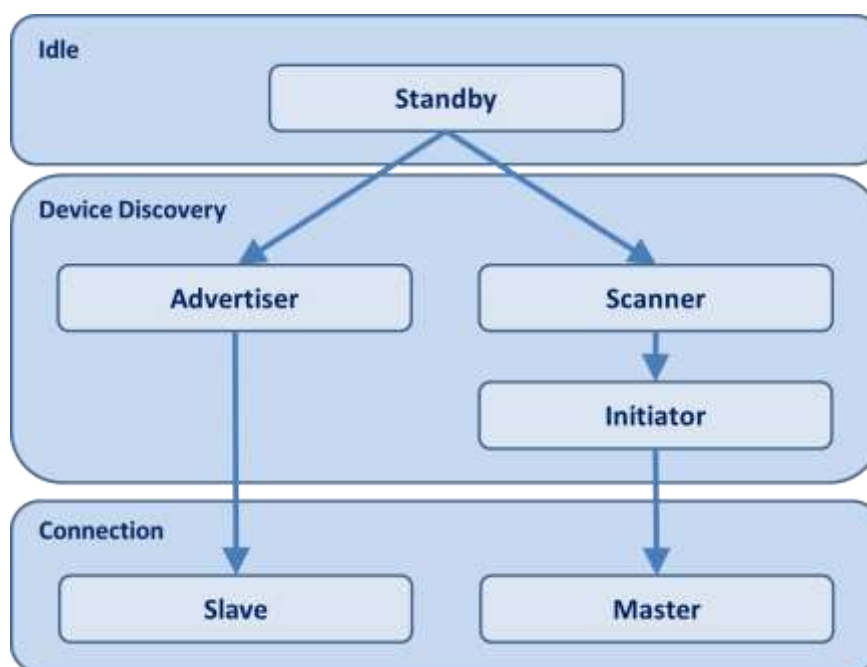

Figure 4: Link Layer States
The LL principally controls the Radio Frequency (RF) state of the device and manages the link state of the radio which is how the device connects to other devices. A Bluetooth low energy device can be a **master**, a slave, or both depending on the use case and the corresponding requirements. A master can connect to multiple slaves and a slave can be connected to multiple masters. Typically, devices such as smartphones or tablets tend to act as a master, while smaller, simpler, more memory-constrained devices such as standalone sensors generally adopt the slave role. A device can only be in one of the following five states: **standby**, **advertising**, **scanning**, **initiating**, or **connected** as shown in Figure 4: